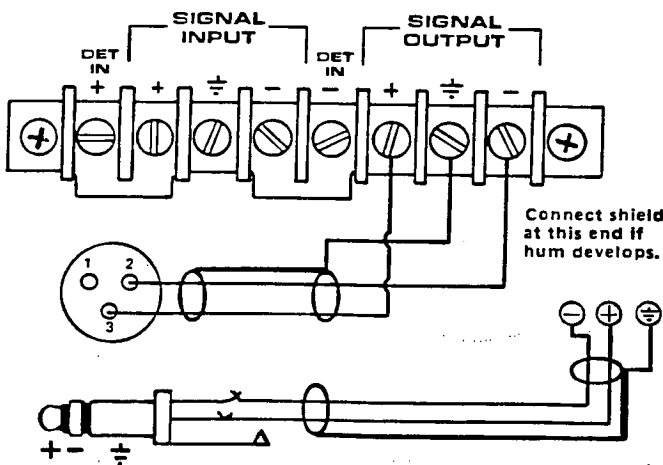

Fig. 2-3 — Connecting the Model 160X's Output to a Balanced Load
Figure 2-3 illustrates the unbalanced connection of the Model 160X's SIGNAL OUTPUT terminals to balanced inputs, and Figure 2-4 to unbalanced inputs.
NOTE: Wiring diagrams Figure 2-3 for balanced loads and Figure 2-4 (A) for unbalanced loads will provide optimum performance from the isolated output stage.